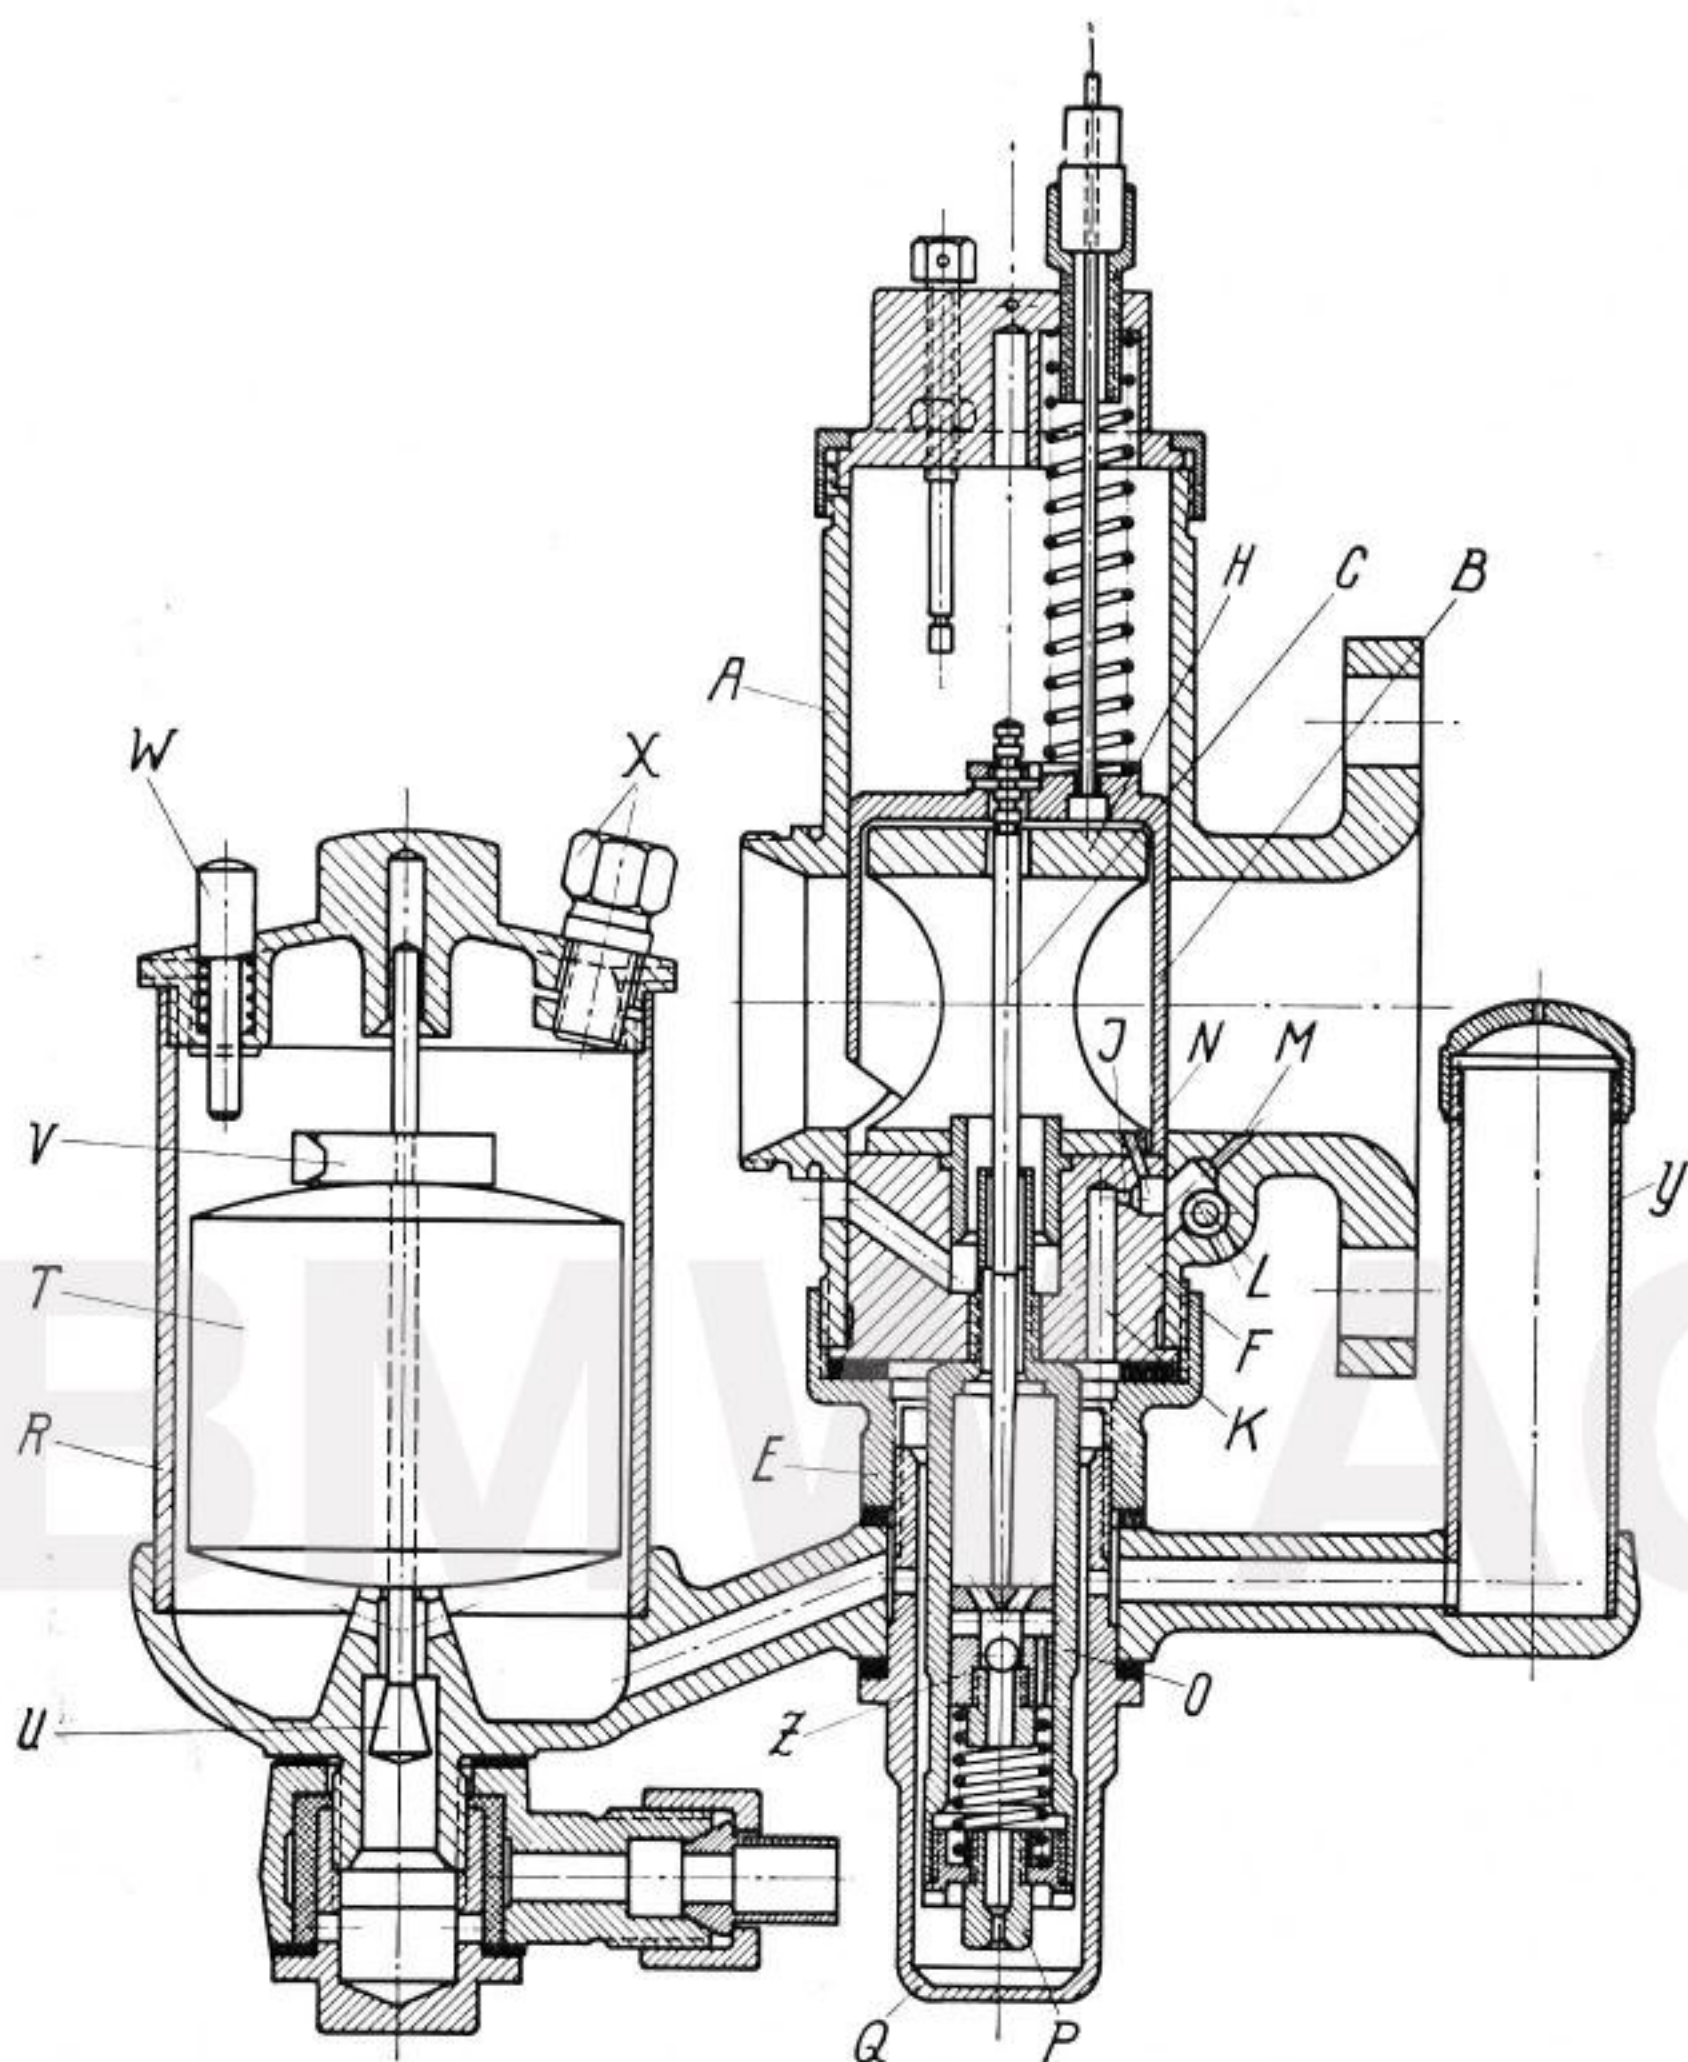

Fig. 15 Carburetter of the two-carburetter touring machine
**c) Float chamber:** The float chamber must be cleaned with petrol after about every 2000 — 2500 miles. At the same time the needle valve should be checked. For this purpose the cover of the floatchamber must be taken off. With the carburetters of the **R 12 two-carburetter machine** the clamping screw X (fig. 15) must be unscrewed first to be able to screw off the cover. Then the clamp spring V on the carburetter valve needle U
must be removed whereupon after removal of the connecting piece of the petrol piping at the bottom, the float chamber may be taken out downwards. (Fig. 15.)
The camshaft 1 (fig. 15) supported in plain bearings 2 and 3 above the crankshaft is driven from the latter by the sprockets 4 and 5 which are connected by a silent roller chain. The camshaft also drives through sprockets 6 and 7 the magneto for lighting and ignition by means of a silent chain.
**b) R 12 two-carburetter machine.** For the R 12 two carburetter touring machine two Amal single slide valve pump carburetters are employed the inner structure of which is shown by fig. 15.
With the carburetters of the **R 12 and R 17 two-carburetter machine** a tickler **W** is arranged in the cover of the float chamber which on pressing down keeps the float valve **U** open and thus shows whether there is a proper flow. When kickstarting the engine, more fuel is supplied to the jets by operating the tickler **W** which considerably facilitates starting (fig. 15 and 16). Regarding the maintenance of the carburetters see page 20.